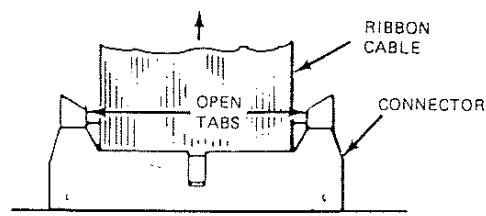

Figure 18.
4. Disconnect ribbon cable between user connection module and power supply PWA. Do so by opening tabs on connector on power supply PWA. Refer to Figure 18.
9. Remove ribbon cable connector from the signal conditioning PWA in same manner as shown in Figure 18.
10. Remove ribbon cable connector from the signal conditioning PWA in same manner as shown in Figure 18.